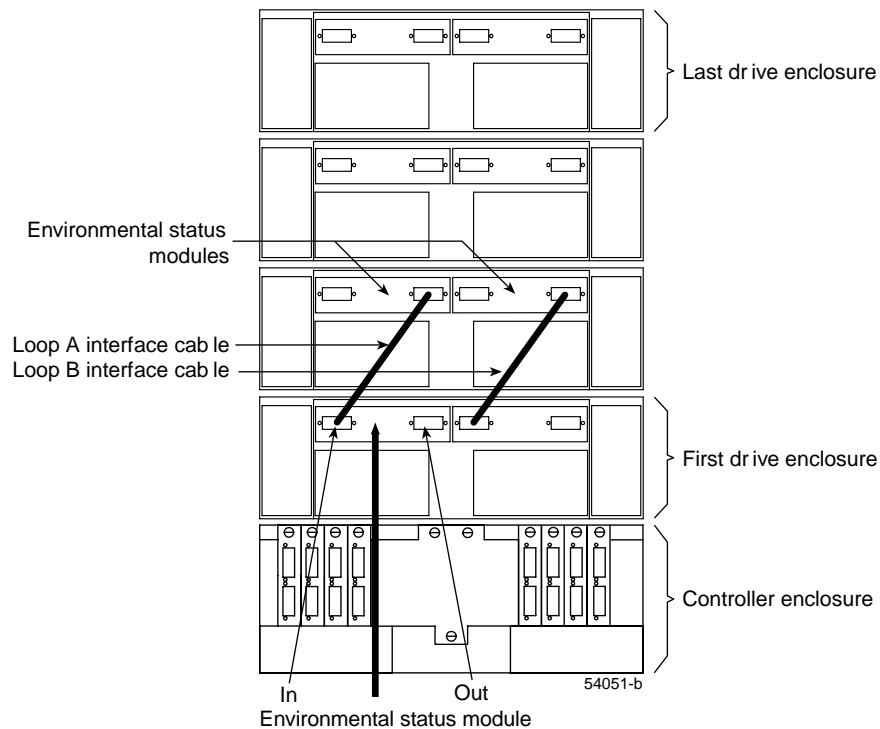

Figure 8-1 Connecting Two Drive Enclosures into a Redundant Drive Loop
1. Connect the first two drive enclosures to drive loop A (see Figure 8-1).
2. Connect the first two drive enclosures to drive loop B (see Figure 8-1).